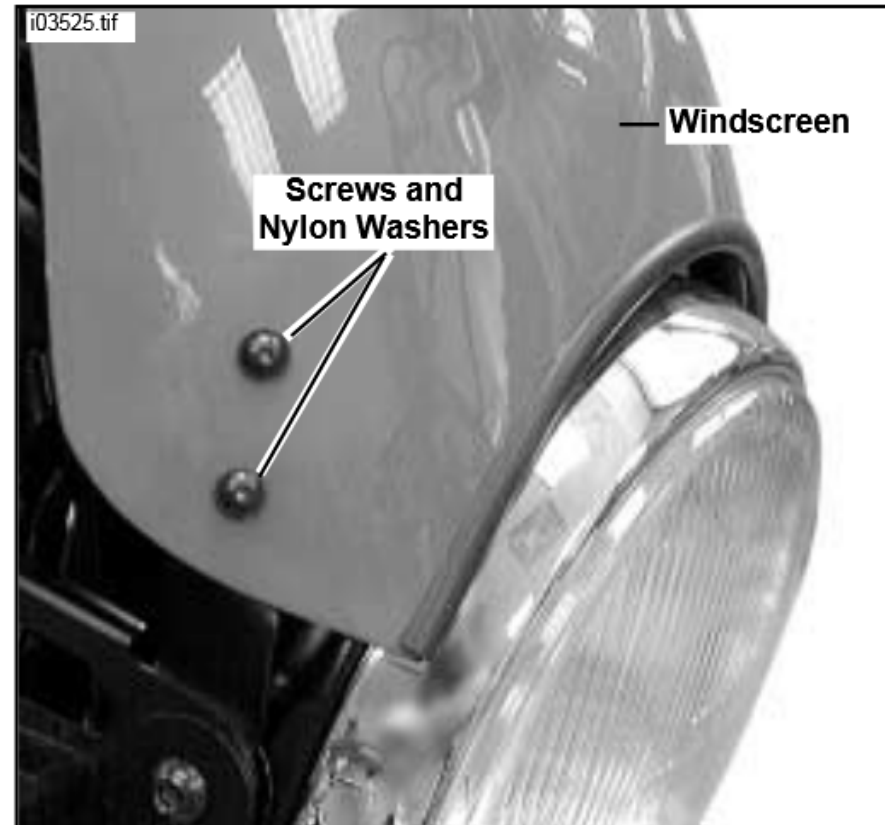

Figure 1. Windscreen, Right Side
3. See Figure 1. Gain access to the back side of the dash panel by removing the two screws and nylon washers on each side of the windscreen and detaching windscreen from brackets. Save screws and nylon washers for re-installation.